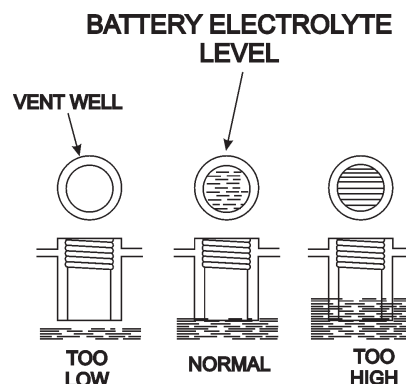

Figure 59. Battery Electrolyte Levels
- Check the battery regularly and make sure that each electrolyte level is to the bottom of the vent well (Figure 59). If necessary add only distilled water in a well-ventilated area.